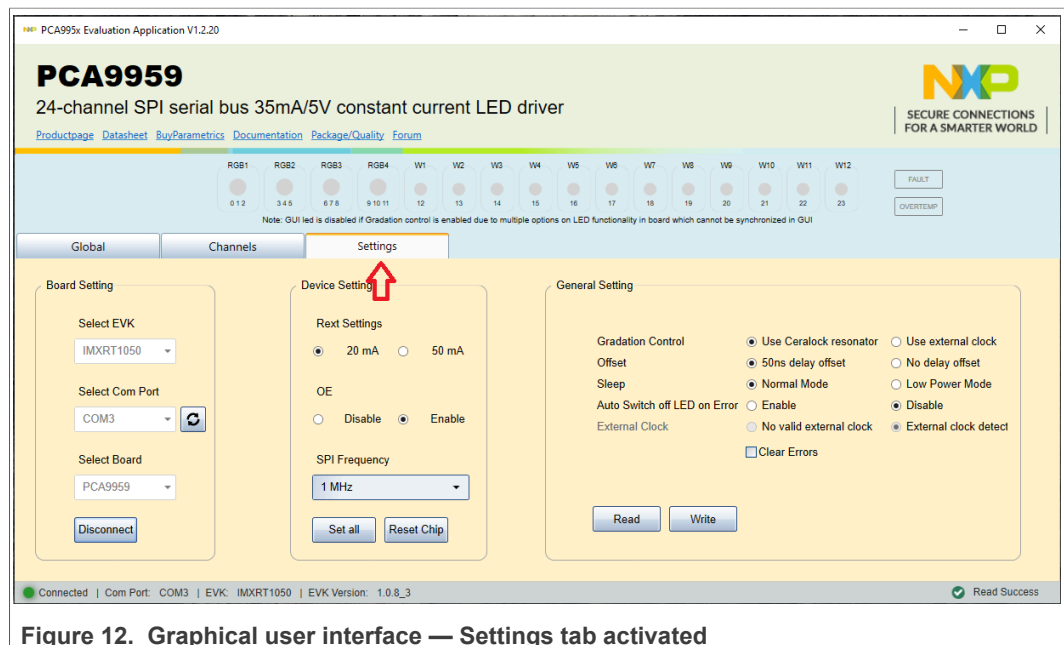

Figure 12. Graphical user interface — Settings tab activated
Once installation is complete, make sure that one of the three supported EVKs with the attached PCA9959HN-ARD daughter board is connected to the PC and powered-on. Open the NXP\_GUI(PCA995x) GUI application. An interface appears as shown in Figure 12.
- **Select COM Port** displays the port selected for the communication. The port is automatically selected by the system and is shown here as (**COM3**, Figure 12).
- **Select Board** allows the user to select the correct daughter board (the application can support three different boards). In Figure 12, the selected board is **PCA9959**. Selecting the wrong EVK or daughter board, causes the connection to fail and a pop-up window with the message: “*Unable to Connect with Daughter Card*” appears on the screen.